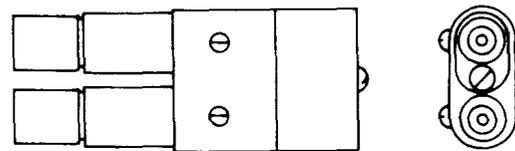

Fig. 19—569A Jack
**2.19 569A:** This twin-type jack (Fig. 19) has coaxially arranged inner and outer contacts. One end of the jack is designed for mating with the 358C and similar-type plugs. The other end is designed for a solderless shield connection to a 728A cable by means of a sleeve which is furnished as a loose part. The outer contacts are connected together; the inner contacts are arranged to permit strapping. A removable coverplate is furnished to be used in covering on an unused cable entrance hole. The 569A jack is capable of withstanding a 3000 volt ac breakdown test. This jack is used with the L4 System Test.